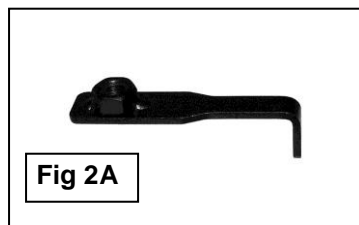

Fig 2A
3. Locate the two factory holes in the bottom of the frame towards the front of the vehicle. Insert (1) 10mm Nut Plate, (**Figure 2A**), into the oval hole and line up the threaded nut with the forward round hole, (**Figure 2B**). **NOTE:** Nut Plate and Support Bracket are not required on 2011-12 25-3500 models.